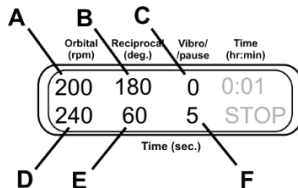
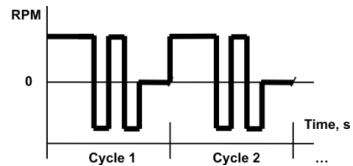

Fig. 9.
Fig. 10.
- 6.9.3. **Orbital + Reciprocal + Pause.** Set the speed (fig. 9/A, 20–250 rpm) and time (fig. 9/D, 1–250 s) of Orbital motion. Set the amplitude (fig. 9/B, 0–360°) and time (fig. 9/E, 1–250 s) for Reciprocal motion. It is performed at the same speed as the Orbital motion. Set the amplitude (fig. 9/C) of Vibro motion to zero. Set the time for Vibro motion (fig. 9/F, 1–5 s), this is the time of pause duration (fig. 10).